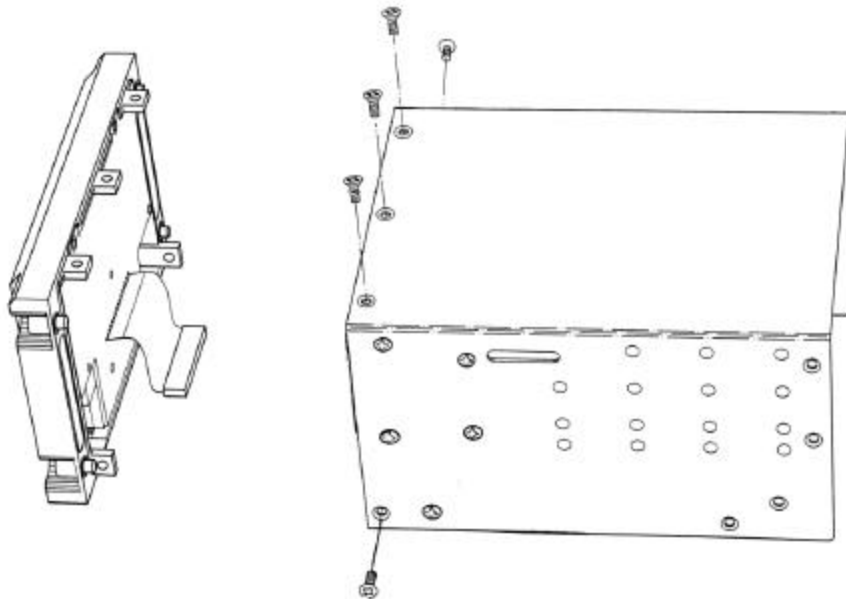

Figure 1. Removing the Keyboard/Display
1. Remove the five 4-40 x 0.25 FHP Phillips-head screws that secure the Keyboard/Display Assembly to the chassis (see Figure 1). Disconnect the cable from the connector on the Power Supply board, and remove the Keyboard/Display Assembly from the chassis.